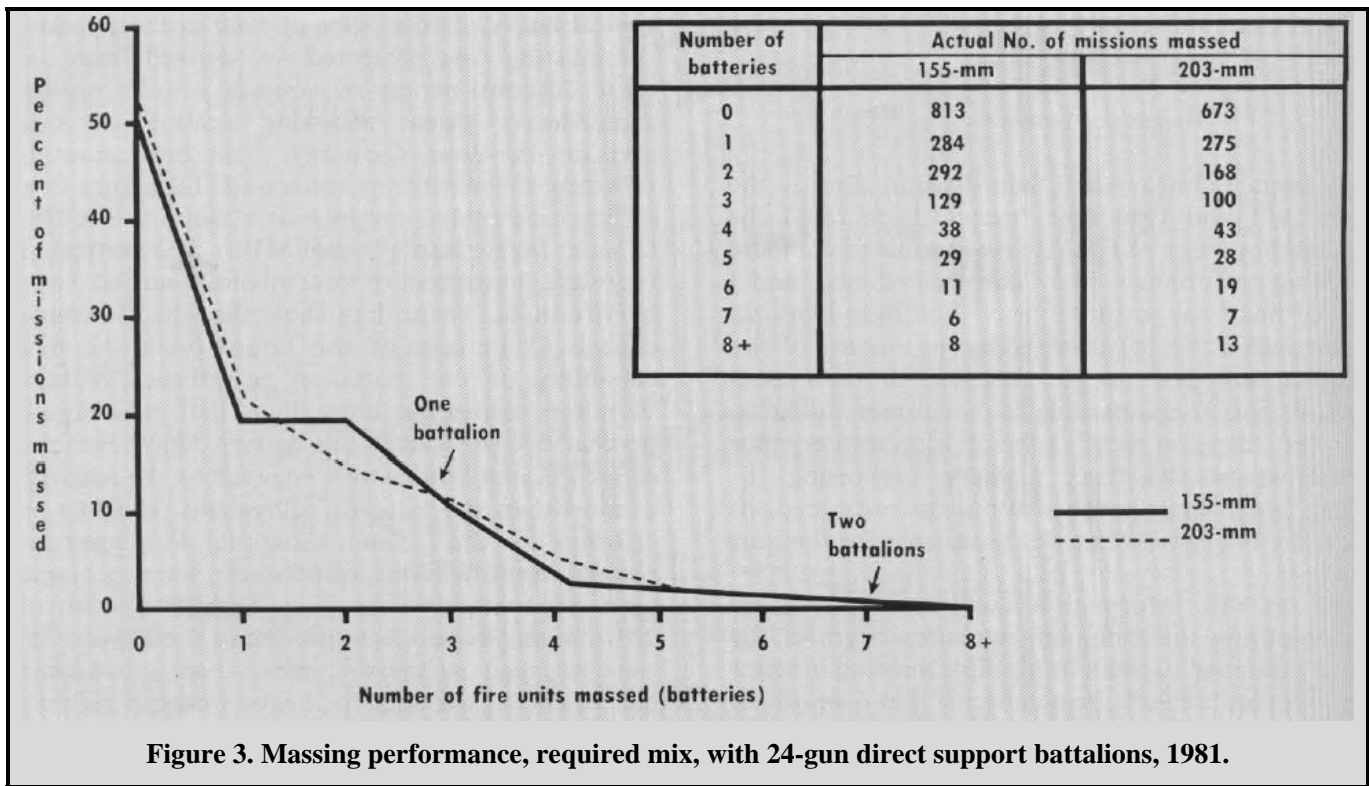
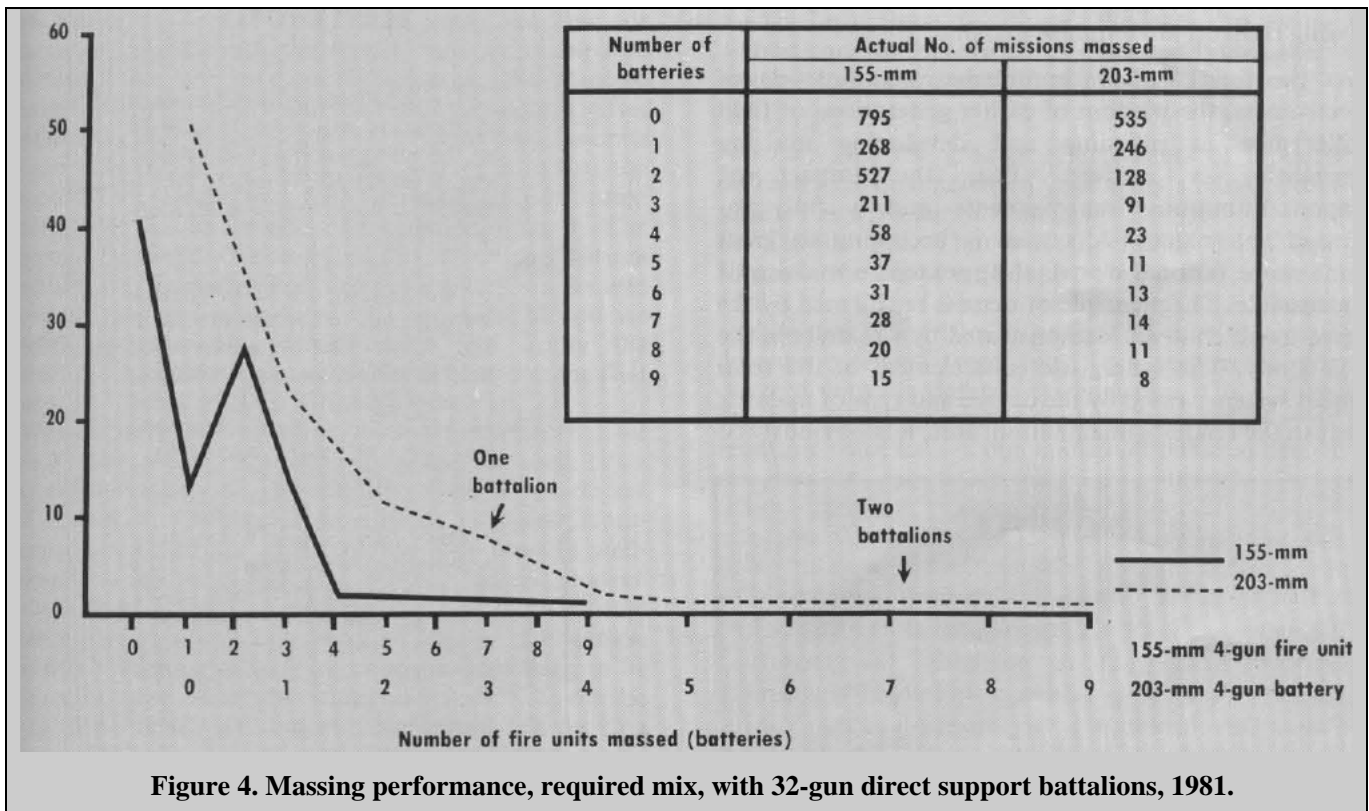

Figure 3. Massing performance, required mix, with 24-gun direct support battalions, 1981.
Figure 4. Massing performance, required mix, with 32-gun direct support battalions, 1981.
At this point an explanation of the term "battalion equivalent" which is used throughout this discussion may preclude misunderstanding. The massing performance data shown in the various illustrations is for numbers of fire units up to 10 and beyond. The conceptual mix performances shown in figures 2 through 4 and described as containing a number of battery equivalents; i.e., the number of weapons and fire units equated to current fire units. For example, figure 4 shows a mix which is considered "28 battery equivalents." The three battalions of M109A1 contain 96 weapons which equal 16 current batteries, and the three battalions of M110A1 contain 48 weapons which equal 12 current batteries. Thus, the mix contains the equivalent of 28 current batteries, which by today's doctrinal definition, equals 28 fire units. The important distinction to be made is that, although the mix equates to 28 of today's fire units, it was tactically employed within the simulation as 24 batteries with 36 fire units. Each M109A1 battery in the conceptual mix contained
The constrained mix level represents a realistic concession to potential budgetary restraints. It is *not* the level required to enable the FA to meet the requirements imposed by the battlefield. That mix level is inherently the optimum mix referred to as the "required mix" in LMV. Figures 3 and 4 portray the massing performance
of two significant mixes conceived in the LMV analysis. These conceptual mixes were selected for this massing comparison because they represent two important organizational concepts that significantly increase the number of weapons and fire units contained in a heavy division slice, thus influencing the numbers of fire units massing. Figure 3 shows data from a seven-battalion mix organized with three 155-mm battalions, each consisting of four fire units and each fire unit containing six weapons. Each of the four 203-mm battalions consists of four fire units of four weapons each. Figure 4 reflects data produced by a mix consisting of six battalions. The three 155-mm M109A1 four-battery battalions, each battery with eight weapons, were consistently employed as eight four-gun fire units (32 howitzers per battalion). Thus, the mix contained 96 155-mm howitzers at the direct support (DS) level. Today's typical division slice consists of 54 155-mm howitzers at the DS level. The three 203-mm battalions were employed as 12 fire units, each containing four howitzers.
It has been shown at the constrained 1981 mix level (figure 2) that, improvement in system lethality has a profound effect on massing requirements. Larger mixes should produce greater effectiveness and a further lessening of the requirement for multiple battalion massing. Figure 3 shows the massing performance of
These data show that the 155-mm fire units fired 94 percent of the missions by massing the equivalent of one 1981 battalion. The 203-mm fire units engaged 93 percent of the targets with the massing equivalent of one battalion. An additional five percent of the 155-mm targets and six percent of the 203-mm targets were engaged by the massed fires of a second battalion equivalent. Only one percent of the missions for both types of fire units required the massing of more than two battalion equivalents. As expected the data in figure 4 depicts the continued improvement in reducing multiple battalion massing requirements due to the combined effect of increased system effectiveness and larger mixes. These data show the massing performance of a mix which was the leading cost-effective candidate in the LMV heavy division analysis. The 155-mm fire units engaged 98 percent of the targets with the massing equivalent of one battalion, and the 203-mm fire units engaged 93 percent with the massing equivalent of one battalion. For the 155-mm units, the remaining two percent were accomplished with two more fire units. An additional battalion equivalent of 203-mm (four fire units) accomplished another five percent of the 203-mm fire missions. Thus, 100 percent of the 155-mm missions and 98 percent of 203-mm missions were accomplished by massing two battalion equivalents.